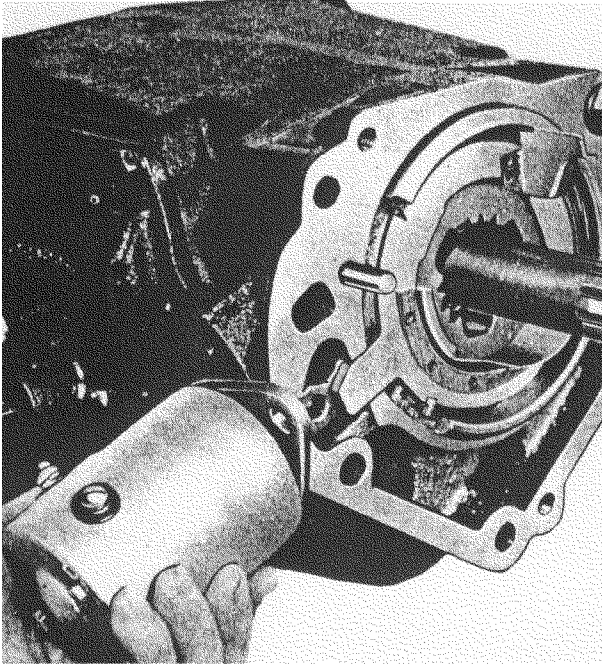

Fig. 36—Removing Solenoid
5. Remove sun gear solenoid, oil seal and cable bracket (fig. 36).